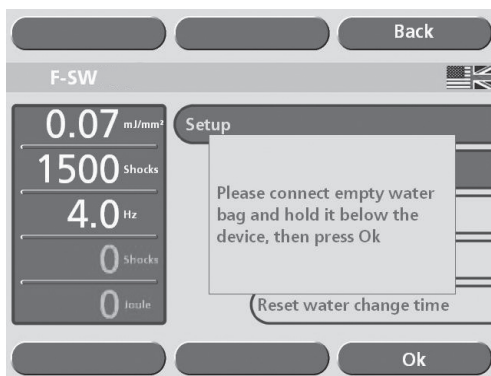

Fig. 4-5 Draining the water circuit I
- Connect the water bag to the Chattanooga Intellect F-SW USA as soon as the message appears (Fig. 4-5).